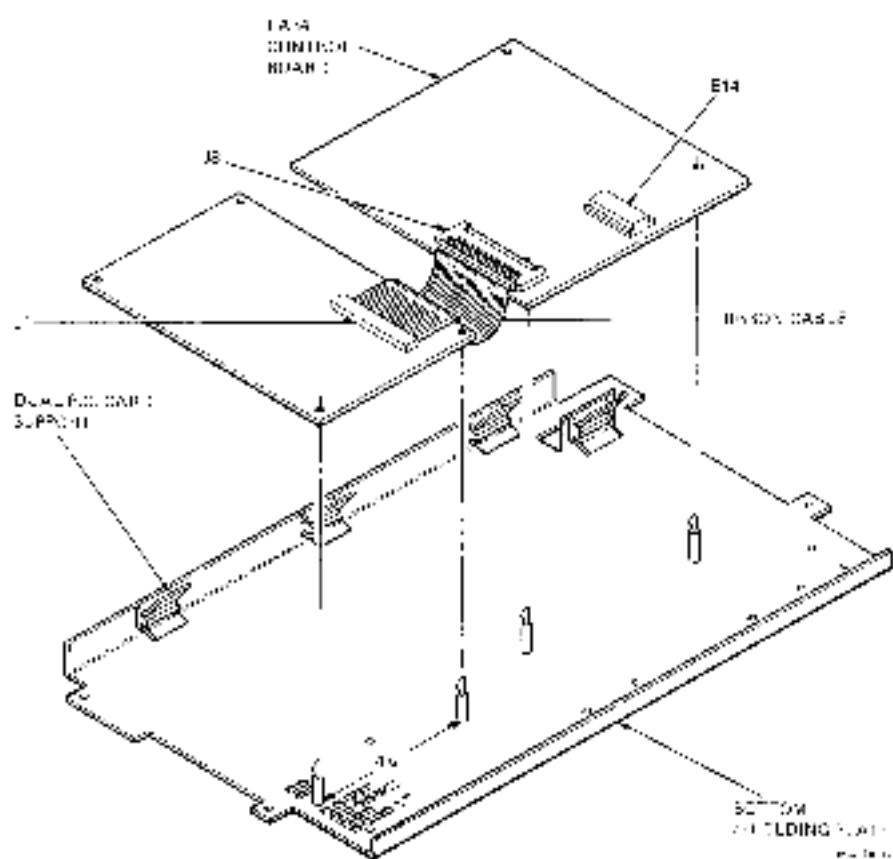

Figure 3-7 LA34-XL/XM Option Board Installation
- a. Secure the left standoff to the shielding plate grid (Figure 3-7) using the 6-22 screw. Use a pair of pliers (or equivalent) to hold the standoff while installing the screw. Do not tighten.
- b. Locate the right standoff a distance of approximately 4-3/4 inches to the right of the left standoff (Figure 3-7). Secure the standoff to the grid but do not tighten.
13. Slide the rear edge of the extended logic board into the upper slot of the dual PC card support (Figure 3-7). Align the two mounting holes in the board with the standoff's and press the board onto the standoffs.
15. Connect the ribbon cable from J1 on the extended logic board to J8 on the control board. Be sure that the ribbon cable is positioned as shown in Figure 3-7.
- a. Remove the ROM chip at location E14 on the control board (Figure 3-7). Insert tip of small flat blade screwdriver between chip and receptacle. Turn tool slightly at each end until pins are free. Do not use rocking motion while removing chip.